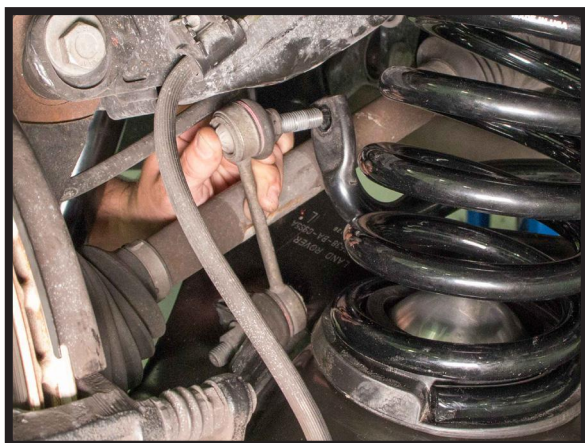

FIGURE 58
9. INSTALL THE SWAY BAR END LINK. (FIGURE 58, 59)